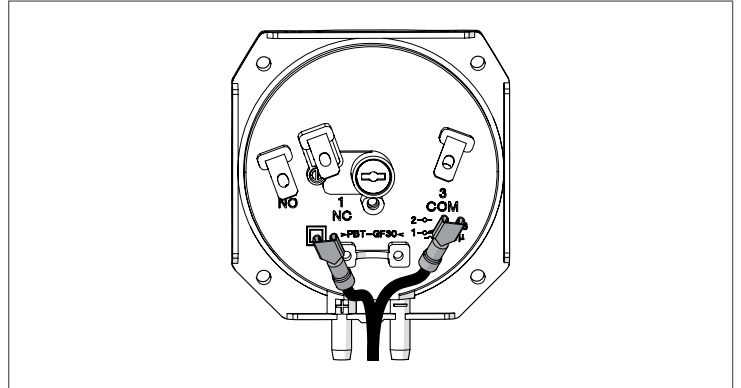
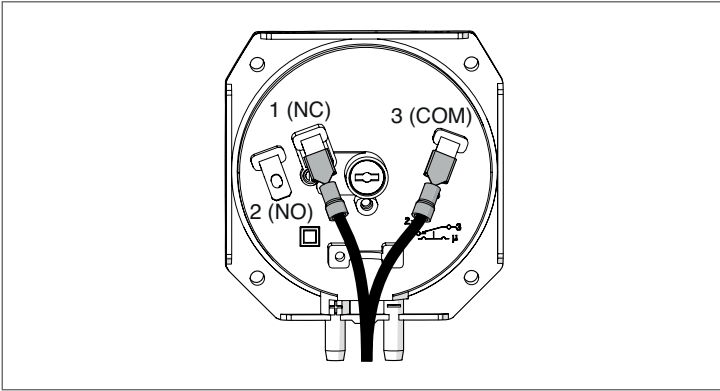

Fig. 66 Disconnect wires
Fig. 69 *Wired pressure switch*
- Test the pressure switch on the other side of the boiler (module 4 or 8); repeat the process from Fig. 66 through Fig. 69.